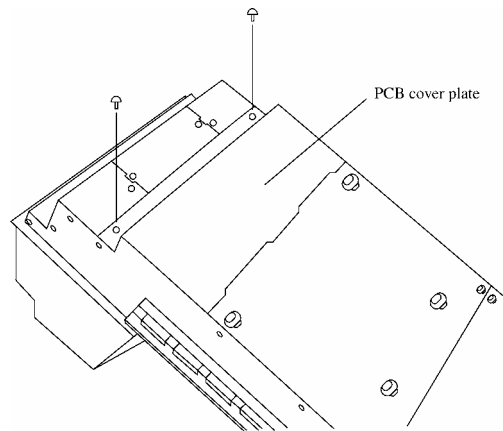
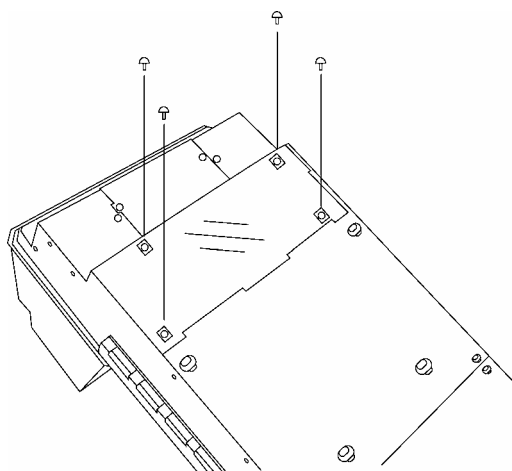

Figure 6.1-1
Figure 6.1-2
- (1) Turn over the 9950 scanner/scale and disconnect external cables.
- (2) Remove the two screws that secure the PCB cover plate. (See Figure 6.1-1.)
- (3) Remove the PCB cover plate.
- (4) Remove the four screws that secure the main PCB. (See Figure 6.1-2.)
- (5) Remove the cables connected to the main PCB and replace the main PCB with a new one.
- (6) After completing the replacement of the main PCB, scan a programming label “Clear Laser Diode Power Monitor in the EEPROM (0012345 70005X)” once after applying power to the scanner.
- (7) (Optionally) Conduct setup of RTC in accordance with procedure in Appendix 1-1.
- (7) Turn the 9950 scanner/scale over and remove the PCB cover plate. (See Figure 6.1-1.)